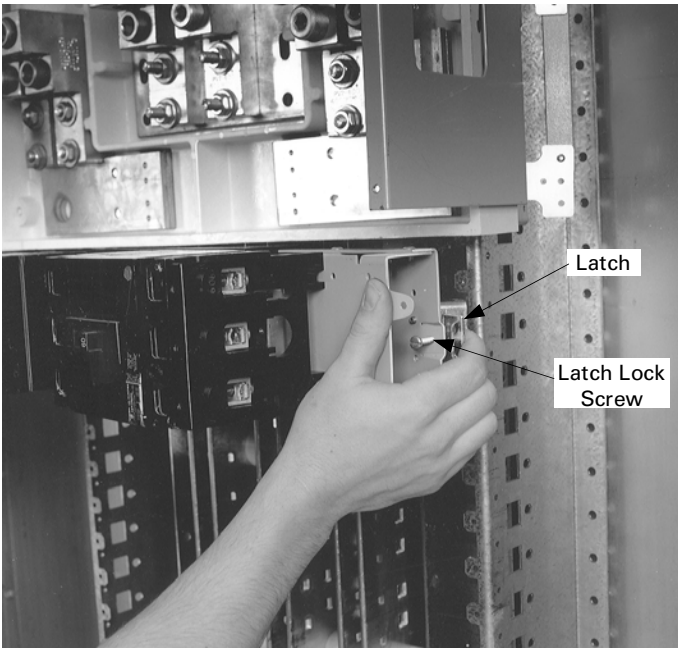

Figure 5. Positioning the breaker module.
**4. Position the module.** Loosen the latch lock screws and fully retract the latches. Line up the guide fingers on both ends of the module with the notches in the panelboard interior rails, as shown in Figure 5. Allow no space between units.